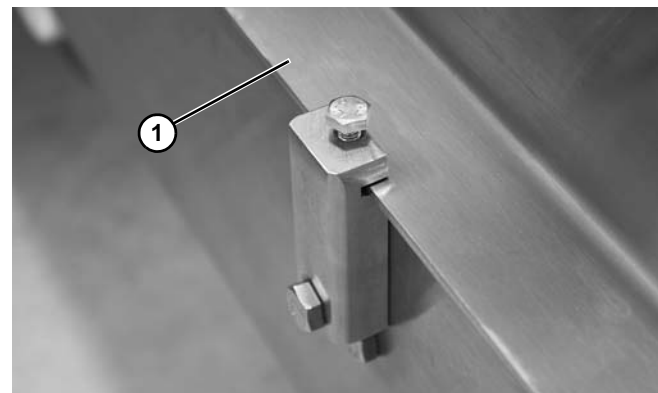

Figure 42
1. Remove guides (Figure 42, item 1) when required.